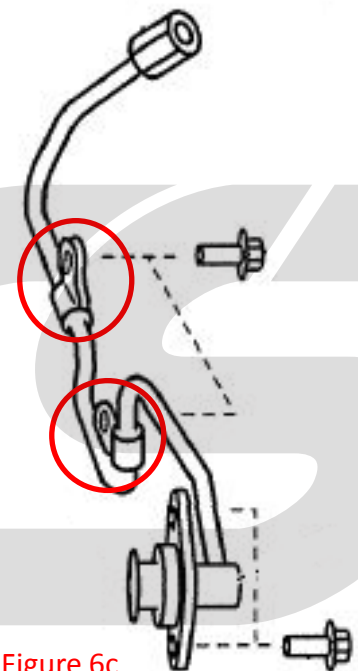

Figure 6c
c) Loosen the high pressure fuel line brackets with a 8mm socket wrench, shown with red circles in Figure 6c.